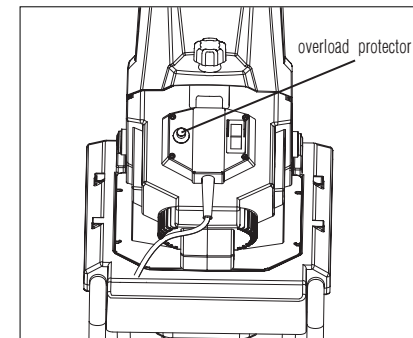

Fig. 8
1. Leave the shredder for a few minutes, then press the overload protector to reset the machine (Fig. 8).